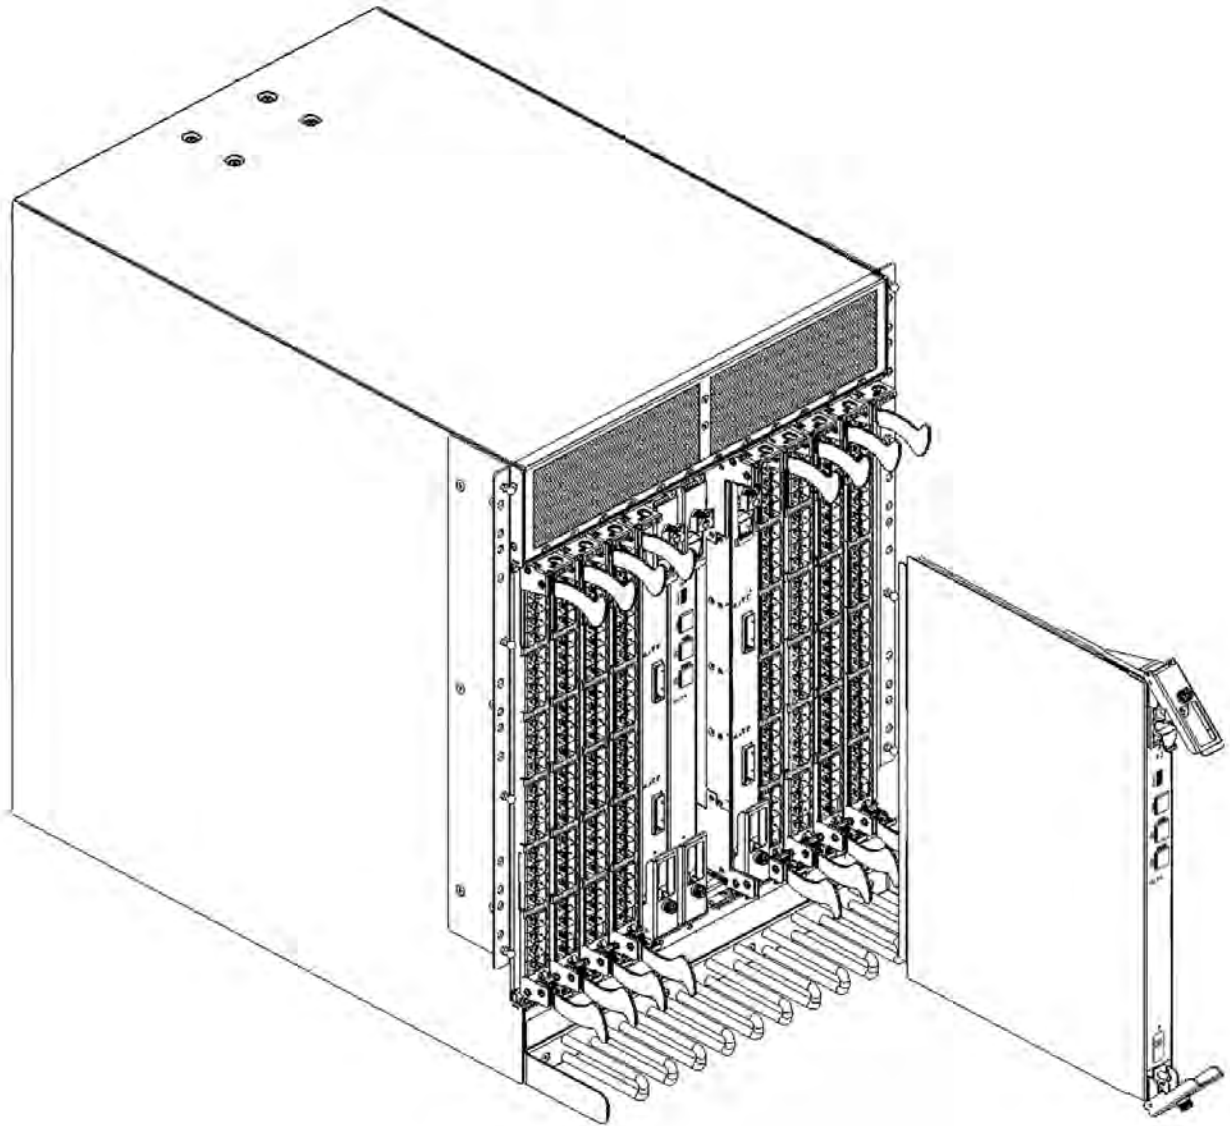

Figure 28. Removing the control processor (CP) blade
- 1) Turn the CP blade off and notify the SAN768B of a hot swap request by sliding the slider switch in the top ejector down to the off position (see Figure 28 on page 65).
4. Power off the blade by sliding the slider switch in the top ejector down to the off position (see Figure 28 on page 65).
7. Lever open both ejector handles simultaneously to approximately 45 degrees and pull the CP blade out of the chassis (see Figure 28 on page 65).